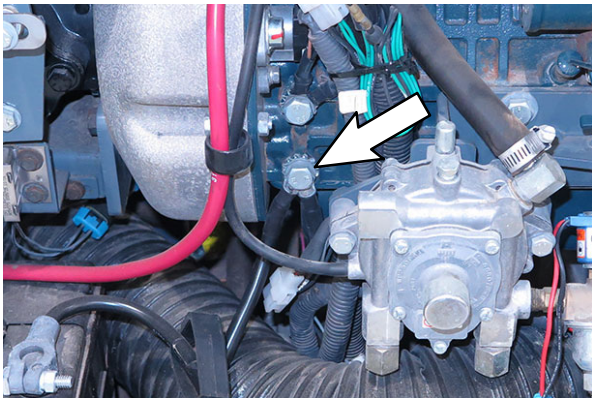

FIG. 9
17. **IC Machines Only:** Route the blue spotlight harness (6) ground lead between the engine and the frame of machine to the engine ground. (Fig. 9)
18. **IC Machines Only:** Use the engine ground hex screw and lock washer connect the blue spotlight harness (6) ground lead to the engine ground. (Fig. 9)